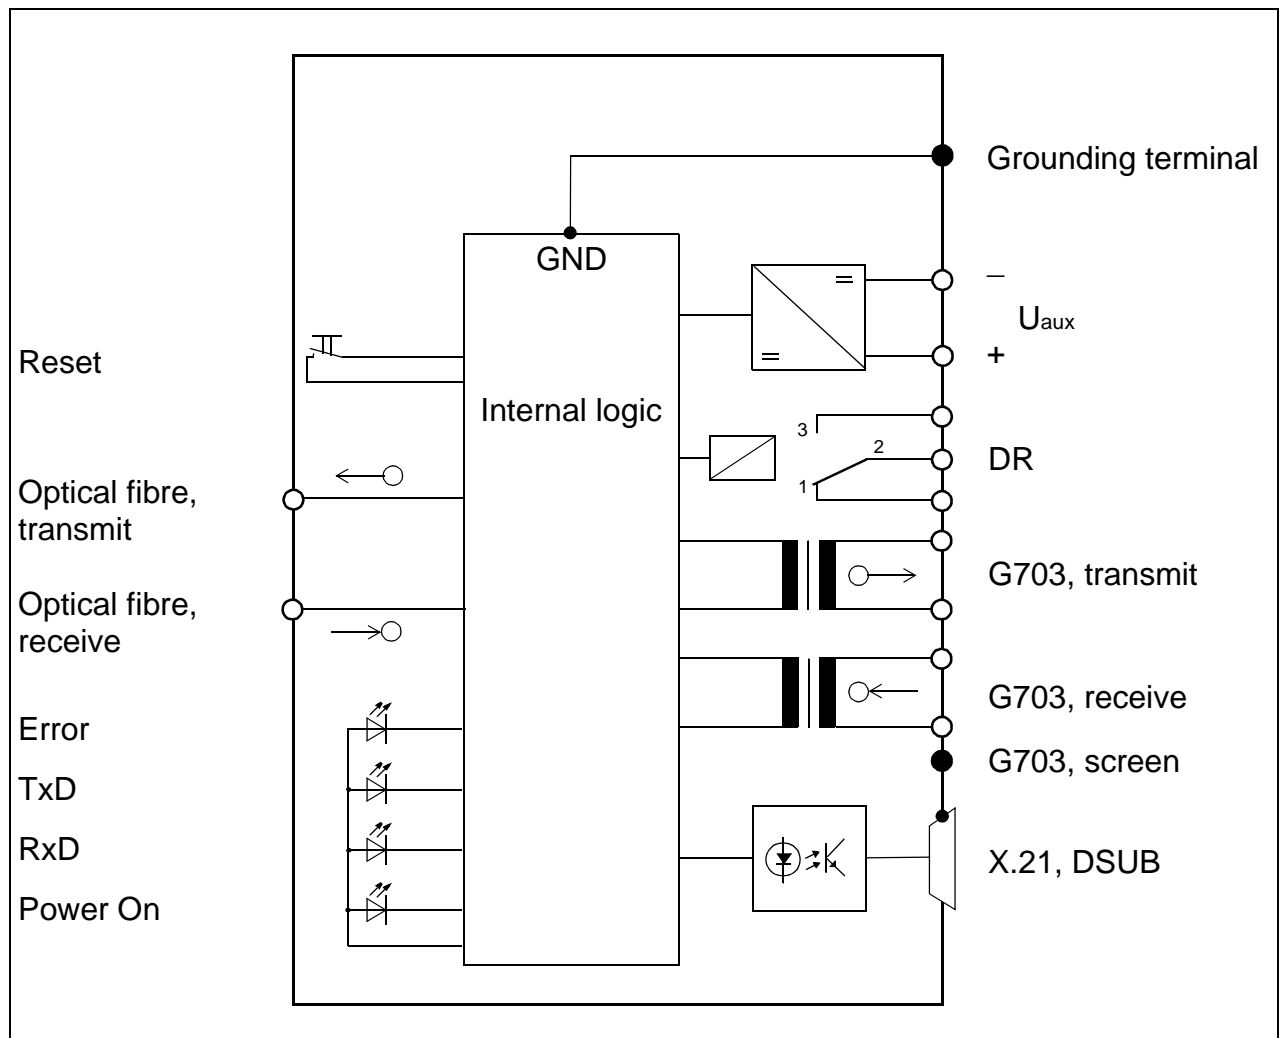

Figure 21 Hardware structure of the CC-S0
The task of the CC-S0 is to perform an adaptation of the available fibre optic active interface in the protection device (DTE) to the physical specification of the respective interface of the communication network (DCE). The adaptation occurs synchronously and completely bit-transparent, i.e. direct forwarding of the information without adding or filtering out information. Figure 21 shows the hardware structure.
- ❑ **X.21:** The signals of the X.21 interface must be applied to the 15-pole DSUB–connector (X.21). The cable screen is connected to the housing. The X.21 signals are electrically isolated from the other electrical circuits (Figure 21).
- ❑ **G703.1:** The signals of the G703.1 interface must be applied to the 5-pole screw terminal (G703) (one incoming and one outgoing pair of strands in each case). The fifth screw terminal adjacent on the left ('S') is for contacting the cable screen and is connected to the housing. The G703.1 signals are electrically isolated from the other electrical circuits (Figure 21).